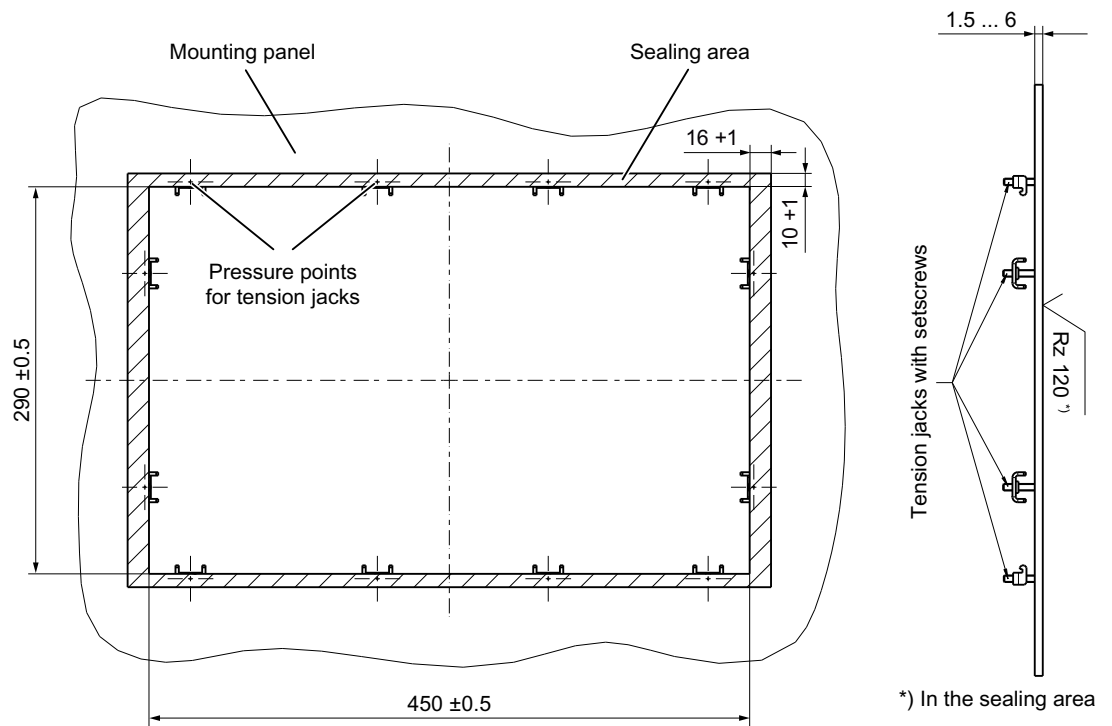

Figure 5-1 Dimension sheet for installing the OP 012 operator panel front
1. Insert the assembled components (operator panel front and PCU) from the front into the panel cutout (see Figure 5-1 Dimension sheet for installing the OP 012 operator panel front (Page 97)).